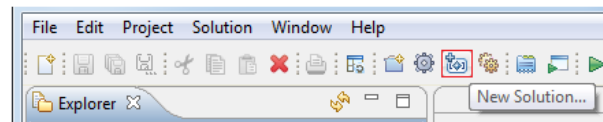

Figure 2.35: New Solution button
1. In the Vivado HLS main toolbar press **New Solution** button to open the new **Solution Configuration** dialog box, see Figure 2.35.